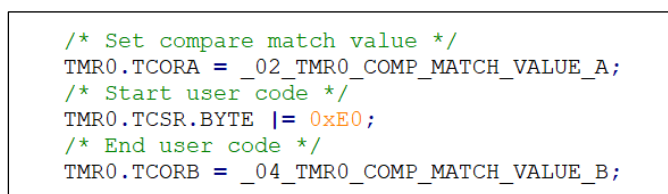

Figure 10-6 The codes after resolving the merge conflict
- 2) Remove last time generated code and the conflicts comment (<<<<<<Last Time Generated Code, ===== and >>>>>>This Time Generated Code) as shown in Figure 10-6.